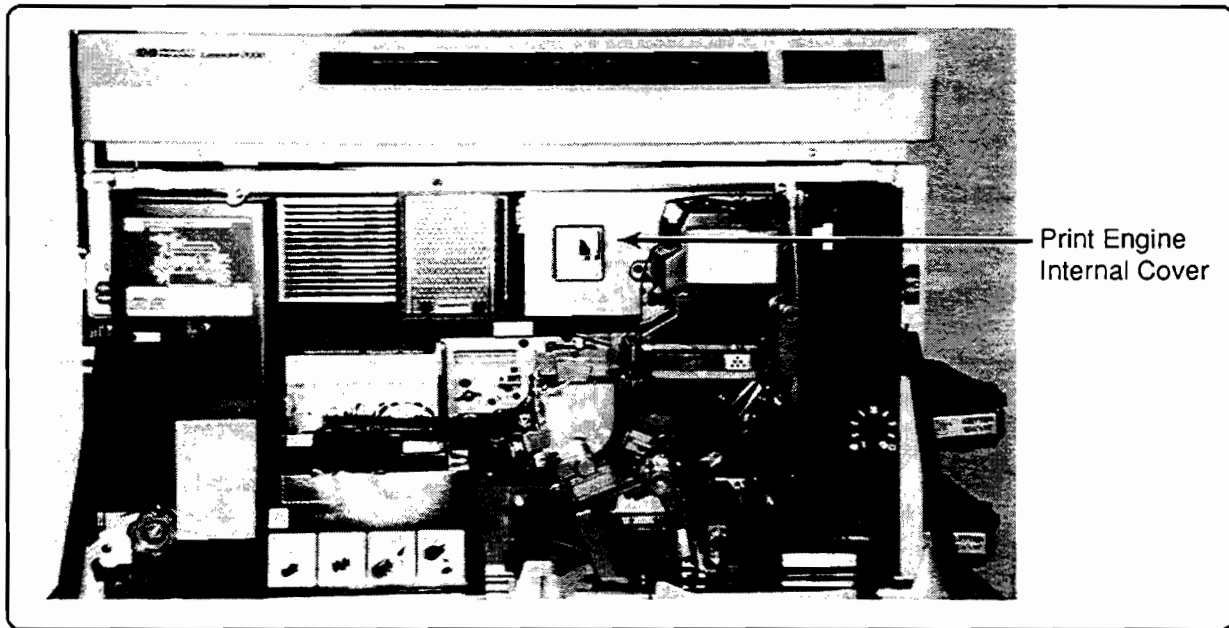

Figure 4-3. Print Engine Internal Cover
- i. Print Engine Internal Cover (black plastic covering upper half of EP Area, two screws, Figure 4-3).